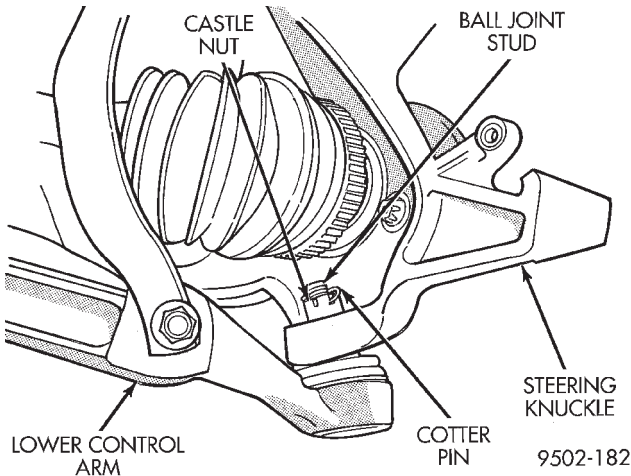

Fig. 17 Lower Ball Joint to Steering Knuckle Attachment
(7) Install the steering knuckle to ball joint stud castle nut (Fig. 17). Tighten the castle nut to 95 N·m (70 ft. lbs.).